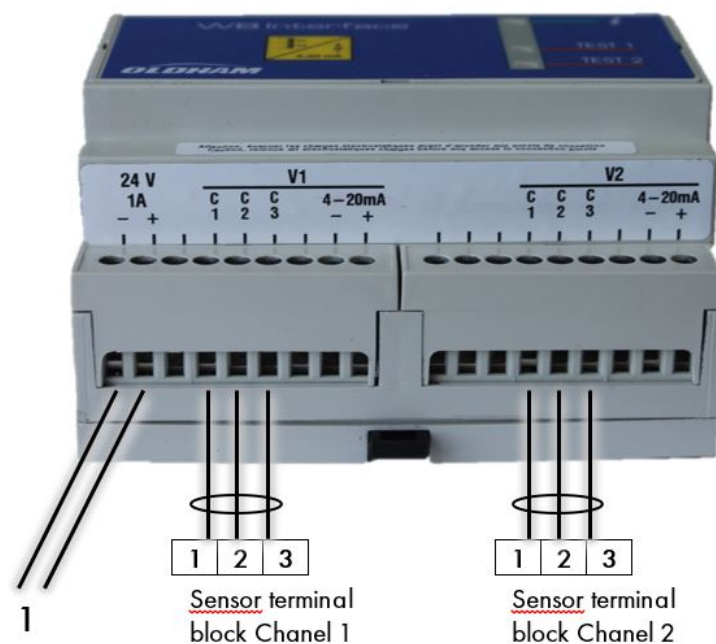

Figure 2
The 24 Volt supply can be connected to the points marked 0 and 24 V - - - on the terminal block (see Figure 2, Ref. 1).
- Terminals C1, C2 and C3 of the WB interface and the sensors will be connected facing each other as shown in Figure 2.